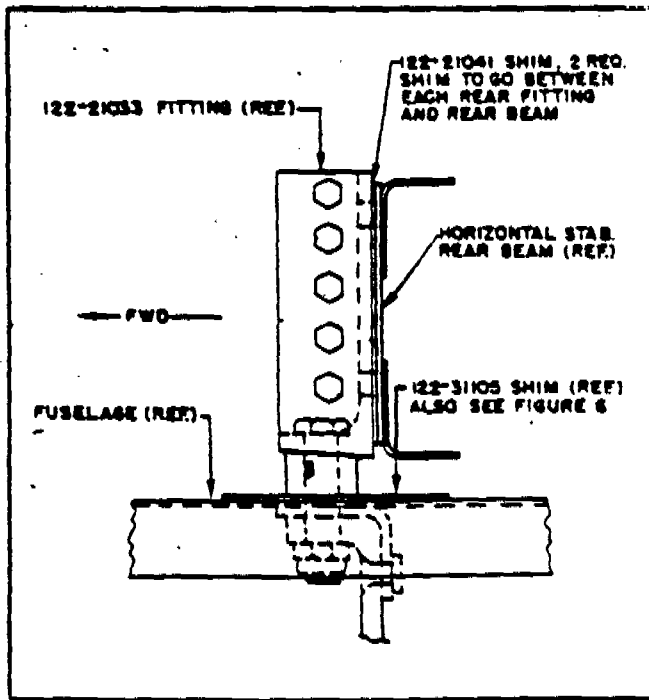
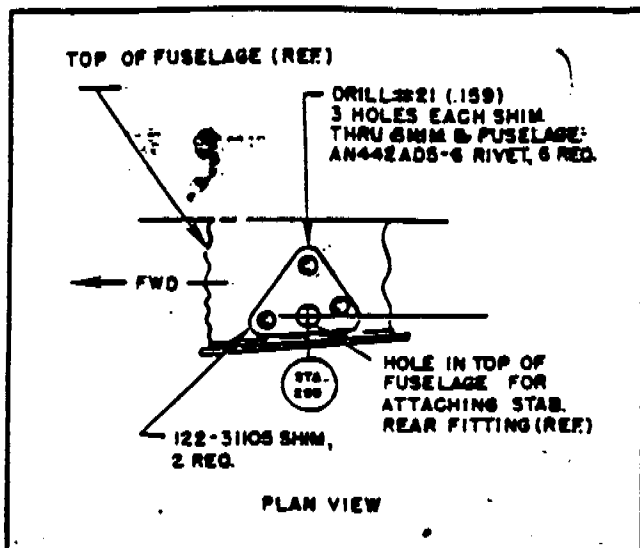

Figure 4 - Looking Inboard - Rear Fitting Installed
Figure 6 - Installation of Shims - Fuselage Rear Section
(1) Install a new shim, part No. 122-31105, over each horizontal stabilizer rear fitting attaching hole in the fuselage. Secure each shim with three rivets, part No. AN442AD5-6, as shown in figure 6. (See figures 4 and 6.)